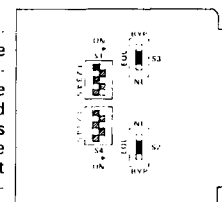

figure 8. 4001A
3.05 Four switch options, two of which are five-position DIP switches, must be set before the 4001A can be placed into service. Locations of these switches on the module's printed circuit board are shown in figure 8.